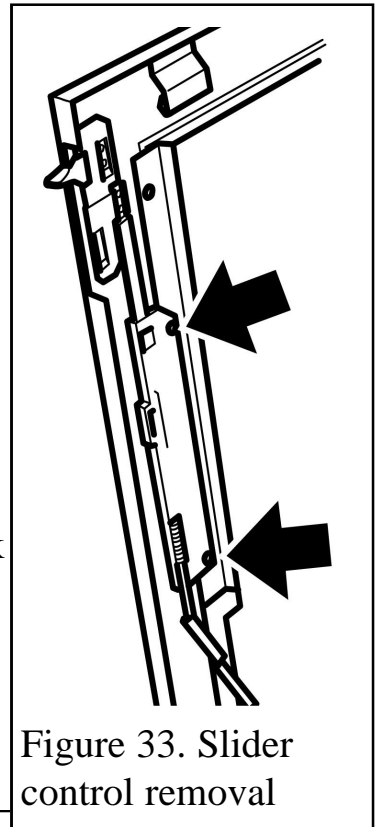

Figure 33. Slider control removal
2. Detach the slider control from the fascia by removing two screws (See figure 33).